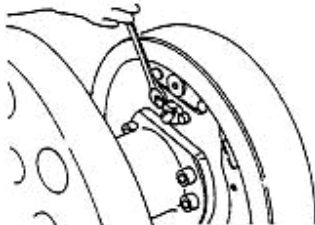

Figure 2-20
(5) Remove the brake pipe from the brake cylinder. Then remove the mounting bolt of the brake cylinder, and remove the brake cylinder from the brake backing plate. See figure 2-20